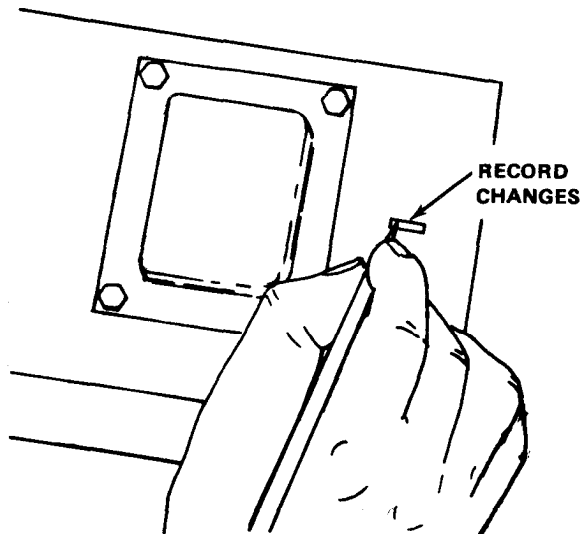

Fig. 3-6. Line voltage indicator.
7. After completing change record new setting on back panel (see Fig. 3-6).